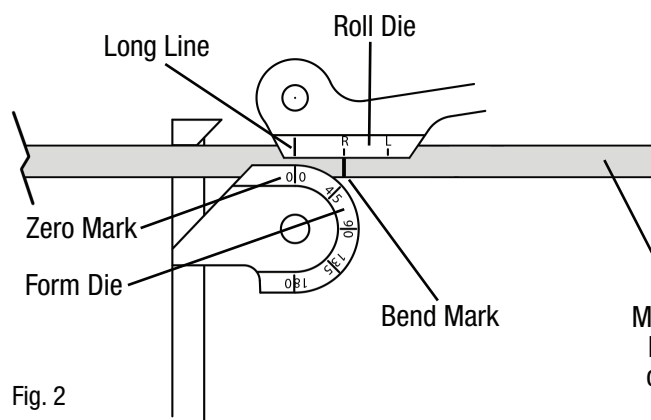

Fig. 2
- If the measured portion of your tube is to the right of the roll die, slide the tube so the bend mark lines up with the "R" (Fig. 2).